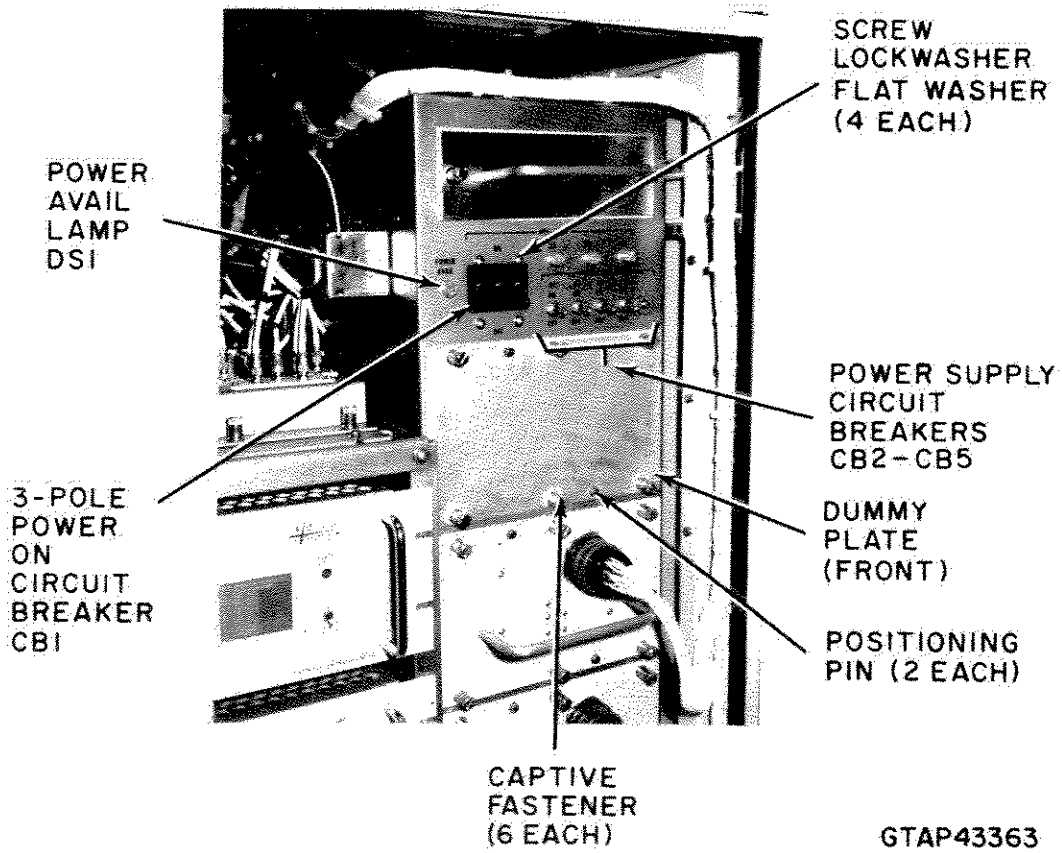

Figure 6-75. Exciter/Auxiliary Exciter Cabinet, Unit 151/152, Circuit Breakers CB1 through CB5 and Dummy Plate (Front)
- d. Observe POWER AVAIL lamp DS1 is not lit (Figure 6-75).
6-7.5.9.2 Removal. (Figure 6-75).
- a. Observe that POWER AVAIL lamp DS1 is lit (Figure 6-75).